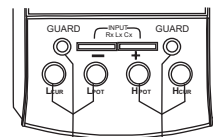

Figure 5
- b) When using $L_{CUR}/L_{POT}/H_{POT}/H_{CUR}$ terminals insert the black and red testing lines with alligator clip into the " L_{CUR} ", " L_{POT} ", terminal and " H_{CUR} ", " H_{POT} " terminal respectively. (shown in figure 5).